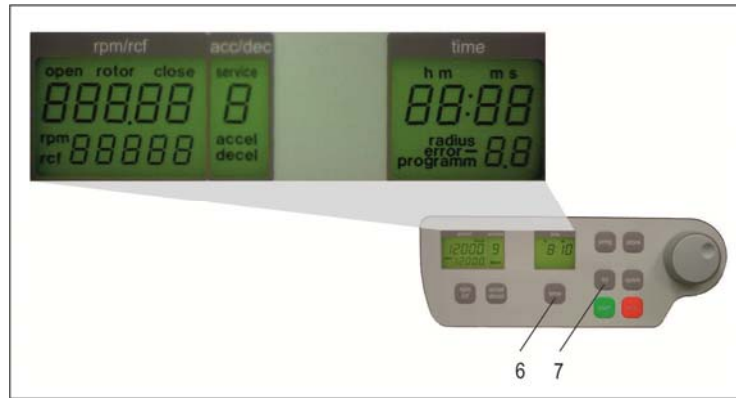

Figure 3
If the centrifuge is still turned off, press simultaneously the keys „time“ (6) and „lid“ (7) and turn on the main switch of the centrifuge. Now release both keys again. As a result a display test is executed for approx. 5 seconds. All possible indications will appear at the same time (see figure 3)